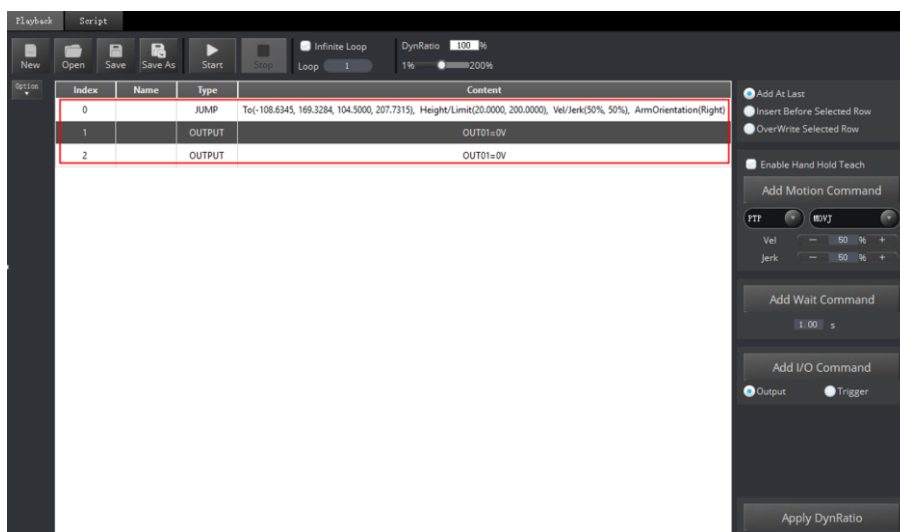

Figure 6.10 The saved point information
- Select a saved point and double-click the parameters on the line to modify the relevant information. The saved point information is shown in Figure 6.10.